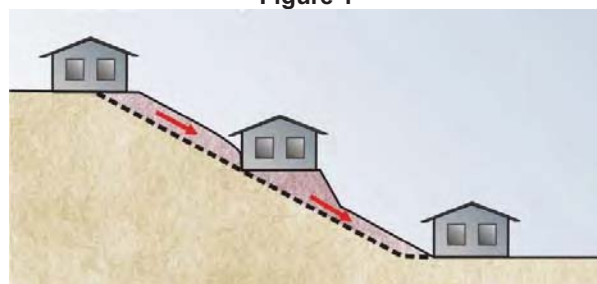

Figure 2
**Translational slip failures (Figure 2)** - tend to occur on moderate to very steep slopes (Table 1) where soil, or weak rock, overlies stronger strata. The sliding mass is often relatively shallow. It can move, or deform slowly (creep) over long periods of time. Extensive linear cracks and hummocks sometimes form along the contours. The sliding mass may accelerate after heavy rain.